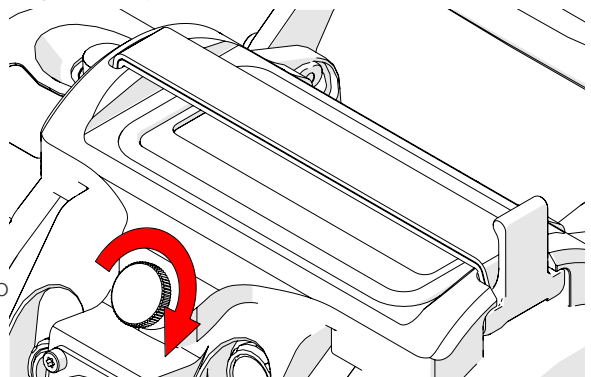

Fig. 82 - Tighten thumb screw
3. Lower the backpack and tighten the thumb screw to secure the backpack to the crawler (Fig. 82).